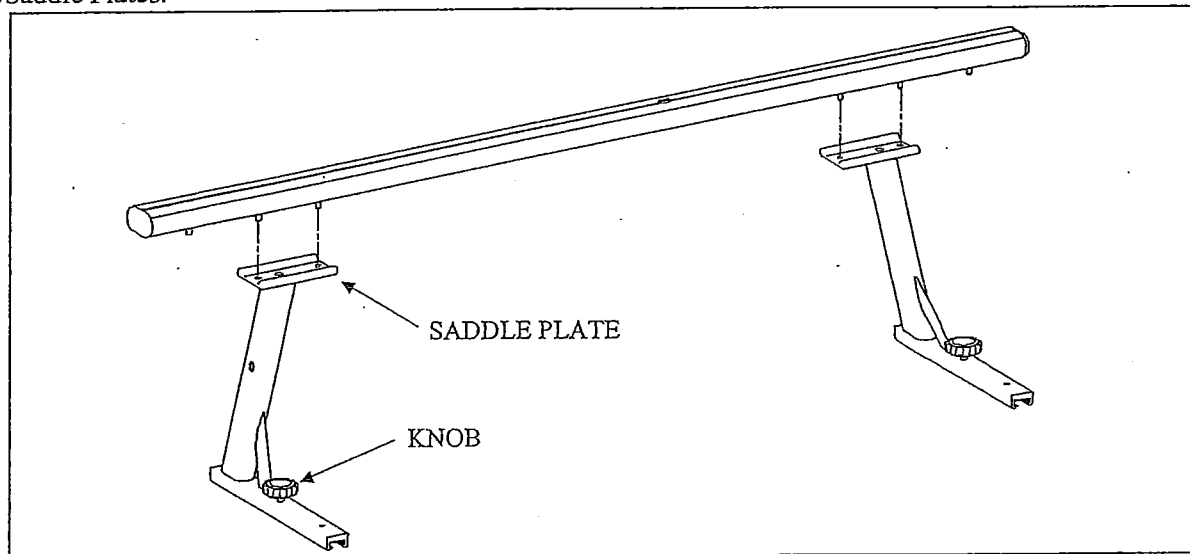

Figure 2
3. Align the Crossbar over the Corner Units and insert the 4 inner T-Bolts into the Saddle Plate holes. Leave 1 T-Bolt to the outside of each Saddle Plate. *(See Fig 2)* Center the Crossbar left and right between the Corner Unit Saddle Plates.